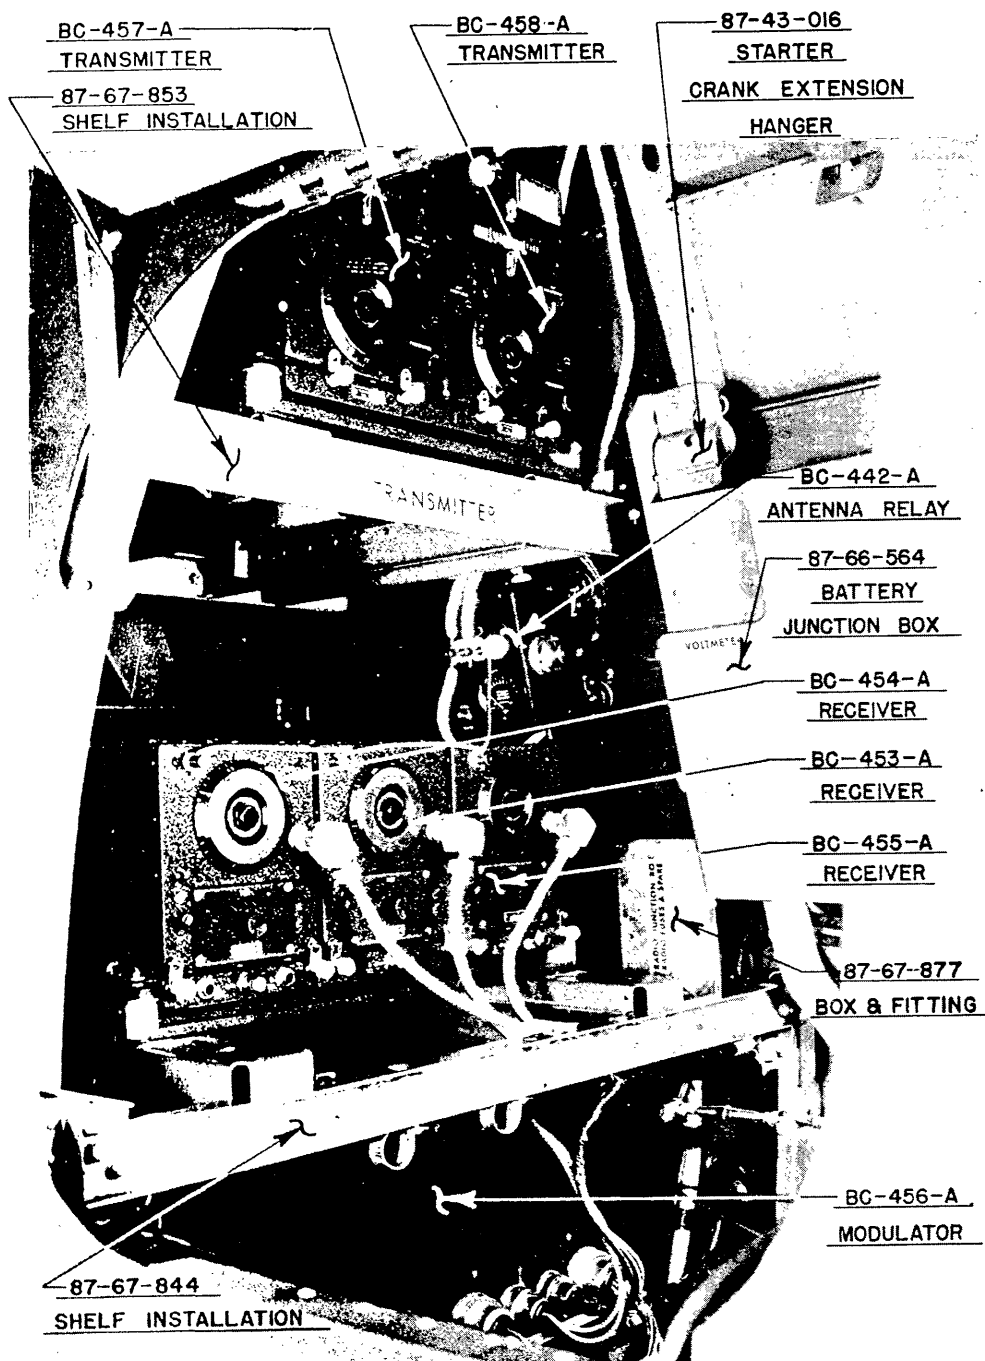

Figure 110 - Radio Installation
b. The SCR-522-A transmitter and receiver unit is mounted on a shelf above the centerline of the fuselage between stations 8 and 9. The type PE-94-A, H42D3114 dynamotor unit is mounted on a shelf, directly above the transmitter receiver unit. The receiver is mounted on a shelf above the fuselage centerline between stations 10 and 11. All units are readily accessible through the fuselage access door. (See figure 110.)